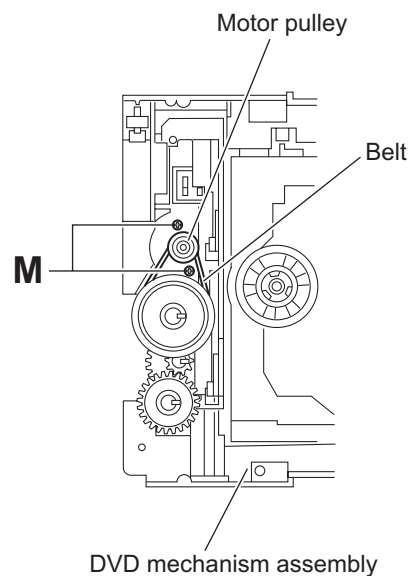

Fig.15
- (2) From the top side of the DVD mechanism assembly, remove the belt from the motor pulley. (See Fig.15.)
- (3) Remove the two screws **M** attaching the motor to the DVD mechanism assembly and take out the motor from the bottom side of the DVD mechanism assembly. (See Fig.15.)